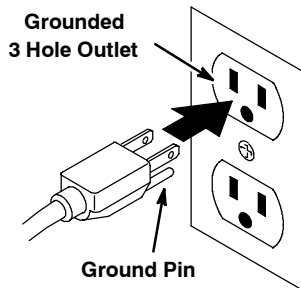

FIG. 28
3. Connect the charger's AC power supply cord to a properly grounded receptacle (Figure 28).